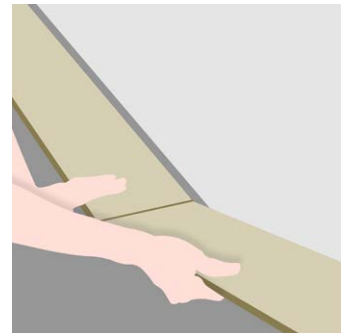

Fig. 2
3. Continue to lay the first row along the length of the wall, clicking together the short edges (fig. 2). Use as many full tiles as possible. A hand roller can be used along the seams to aid installation.